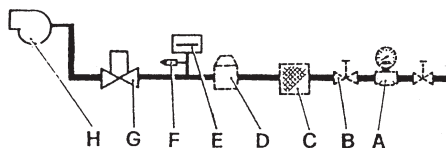

Fig. 5
- the nozzle (28) fitted on the burner is of suitable capacity for the boiler
- the air has been bled from the gas pipe through the pressure outlet connector (F) (Fig. 5)
- Close the gas shutoff cock (B) (Fig. 5 Page 3).
- Bleed the gas from the pipe by loosening the pressure outlet connector (F) (Fig. 5)
- Press the lock reset button (17).